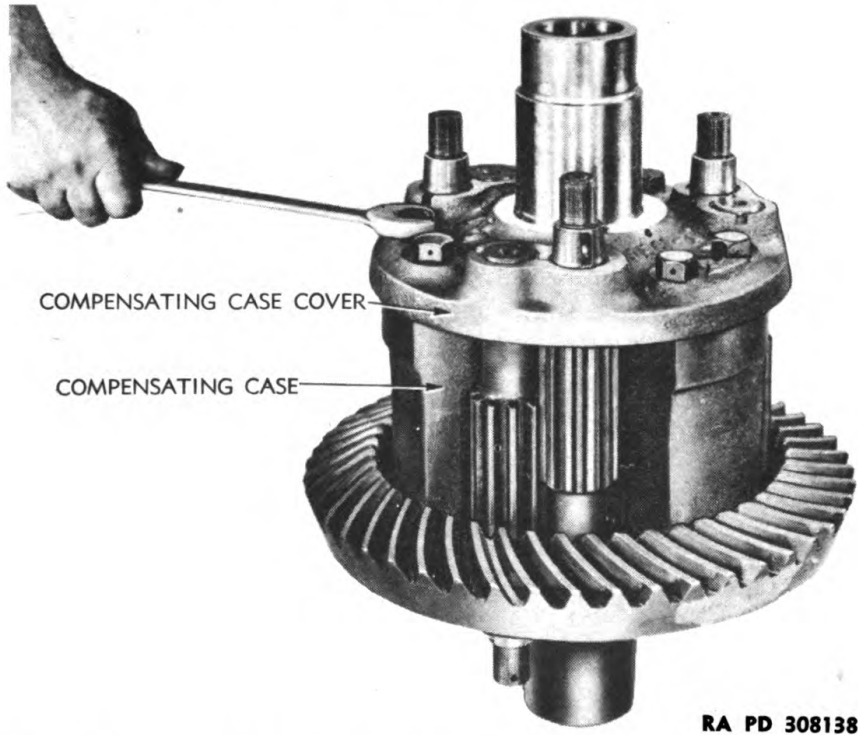

Figure 38 — Removing Compensating Case Cover
c. **Disassemble Differential Assembly.** Set assembly on blocks as (fig. 36), to prevent its tipping. Using puller (41-P-2910-50) installed as shown in illustration, pull brake drum and hub assembly, bearing, and drum hub thrust washer from hub. Remove the same parts from other end in same manner. Pull cotter pins and remove slotted nuts from ends of the six differential pinion shafts. Using gear puller (fig. 37), pull outer pinions from shafts. Gears can be held from turning by placing a short piece of square key stock or similar material between teeth of pinions in such manner that teeth will not be damaged. Remove keys from slots in shaft after pulling pinions. Remove lock wires from heads of cap screws and remove the six cap screws that attach right compensating case cover to compensating case (fig. 38). Mark cover and compensating case with center punch so it can be reinstalled in same position, then tap cover off dowels in compensating case. Dowels may remain in covers. Lift pinion shafts